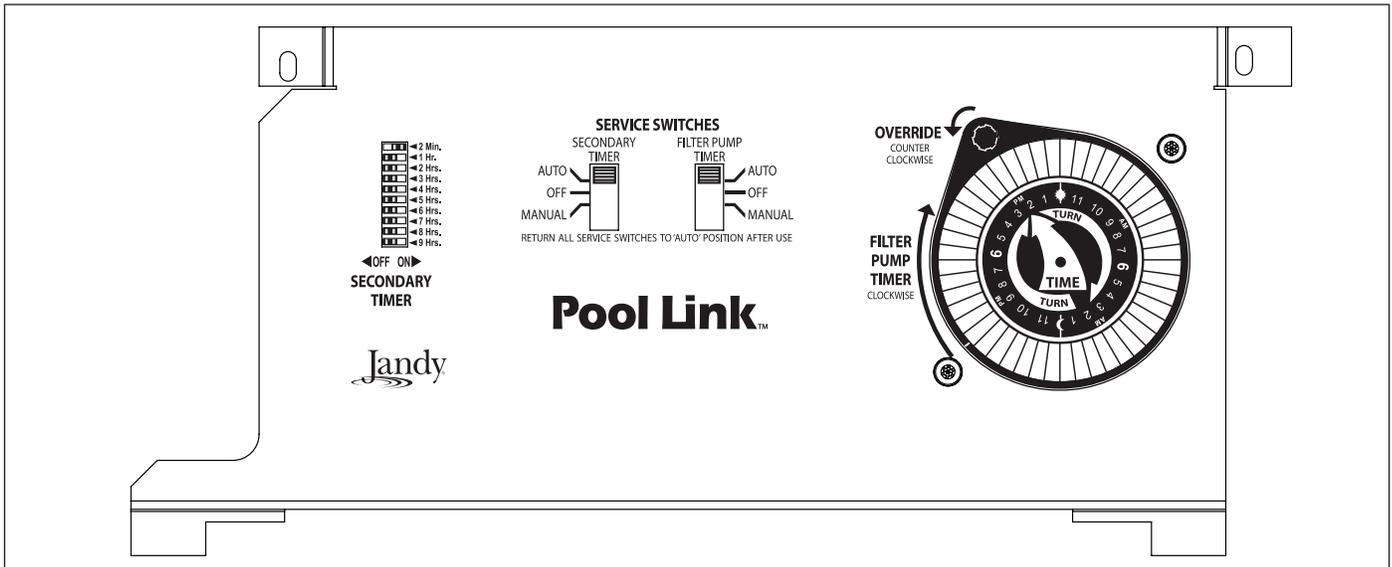

Figure 1. Pool Link Control System
The Pool Link Control System, refer to Figure 1, can turn your pool equipment on and off using the Filter Pump Timer and the Secondary Timer. The Pool Link Control System has built-in freeze protection circuitry.
2.5 How To Use The Service Switches (Refer to Figures 1 and 2)